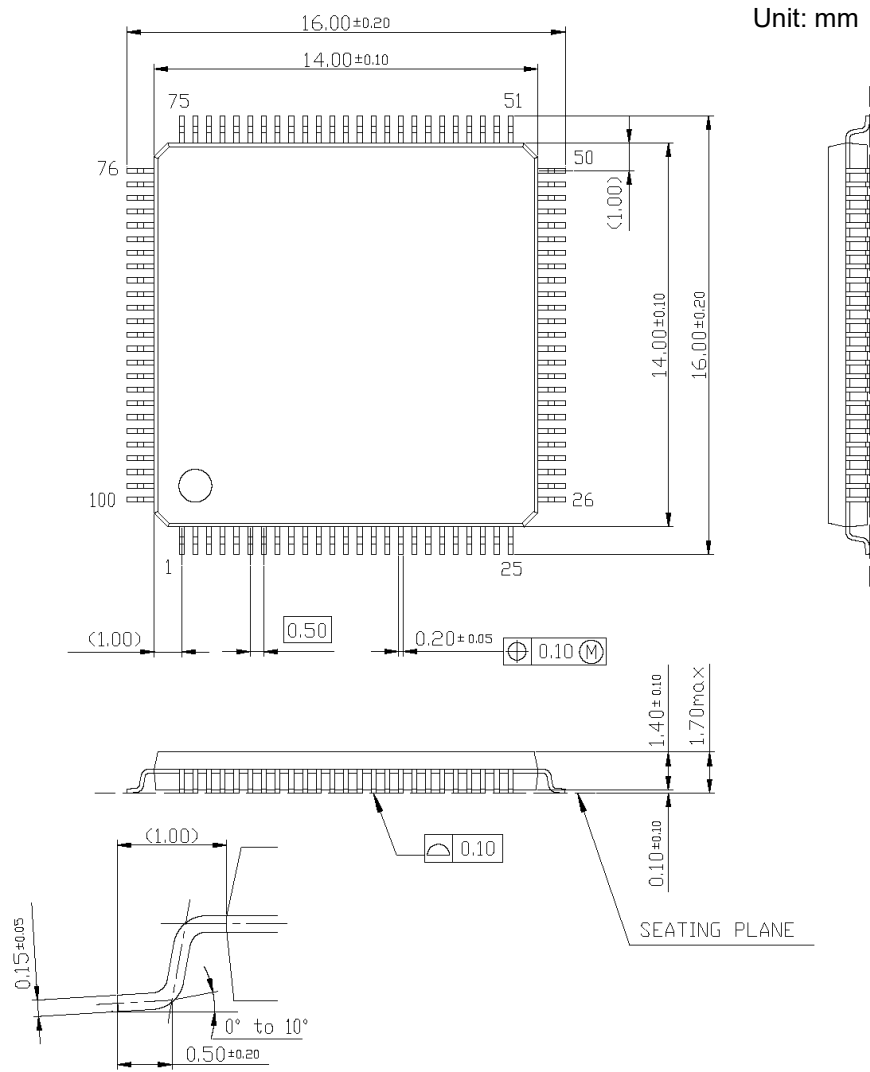

Figure 1.7-1 Package Dimension of 100 pins 14mm * 14mm 0.5mm pitch
- 100 pins 14mm * 14mm 0.5mm pitch Figure 1.7-1